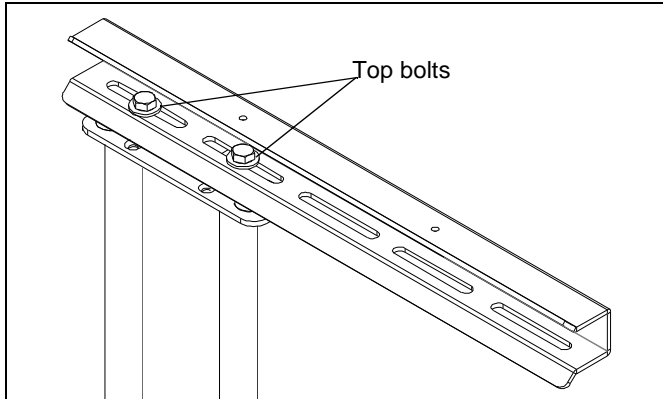

Figure 12
2. Remove four bolts (two on the top and two on the bottom) securing the swing arm assembly to the top and bottom mounting brackets. (See Figure 12)
- Left of Center (See Figure 12).